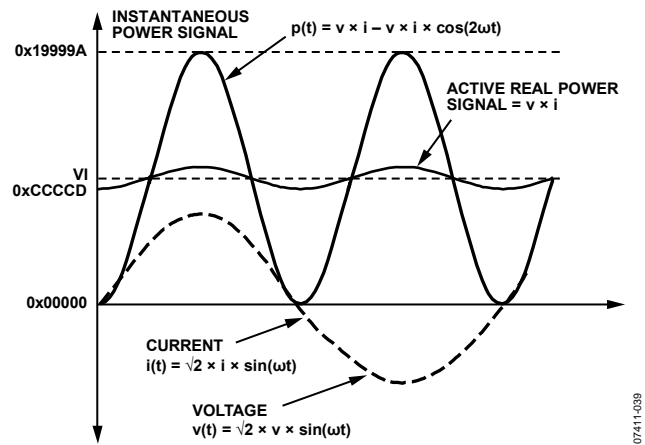

Figure 59. Active Power Calculation
Note that the active power is equal to the dc component of the instantaneous power signal  $p(t)$  in Equation 9, that is,  $VI$ . This is the relationship used to calculate active power in the ADE5166/ADE5169. The instantaneous power signal  $p(t)$  is generated by multiplying the current and voltage signals. The dc component of the instantaneous power signal is then extracted by LPF2 (low-pass filter) to obtain the active power information (see Figure 59).
The ADE5166/ADE5169 also incorporate an active power offset register (WATTOS[15:0], Address 0x20). It is a signed, twos complement, 16-bit register that can be used to remove offsets in the active power calculation (see Figure 59). An offset can exist in the power calculation due to crosstalk between channels on the PCB or in the IC itself. The offset calibration allows the contents of the active power register to be maintained at 0 when no power is being consumed.
As mentioned in the Active Energy Calculation section, the discrete time sample period (T) for the accumulation register is 1.22 μs (5/MCLK). With full-scale sinusoidal signals on the analog inputs and the WGAIN register (Address 0x1D) set to 0x000, the average word value from each LPF2 is 0xCCCCD (see Figure 59). The maximum positive value that can be stored in the internal 49-bit register is 248 (or 0xFFFF,FFFF,FFF) before it overflows. The integration time under these conditions when WDIV = 0 is calculated in the following equation: